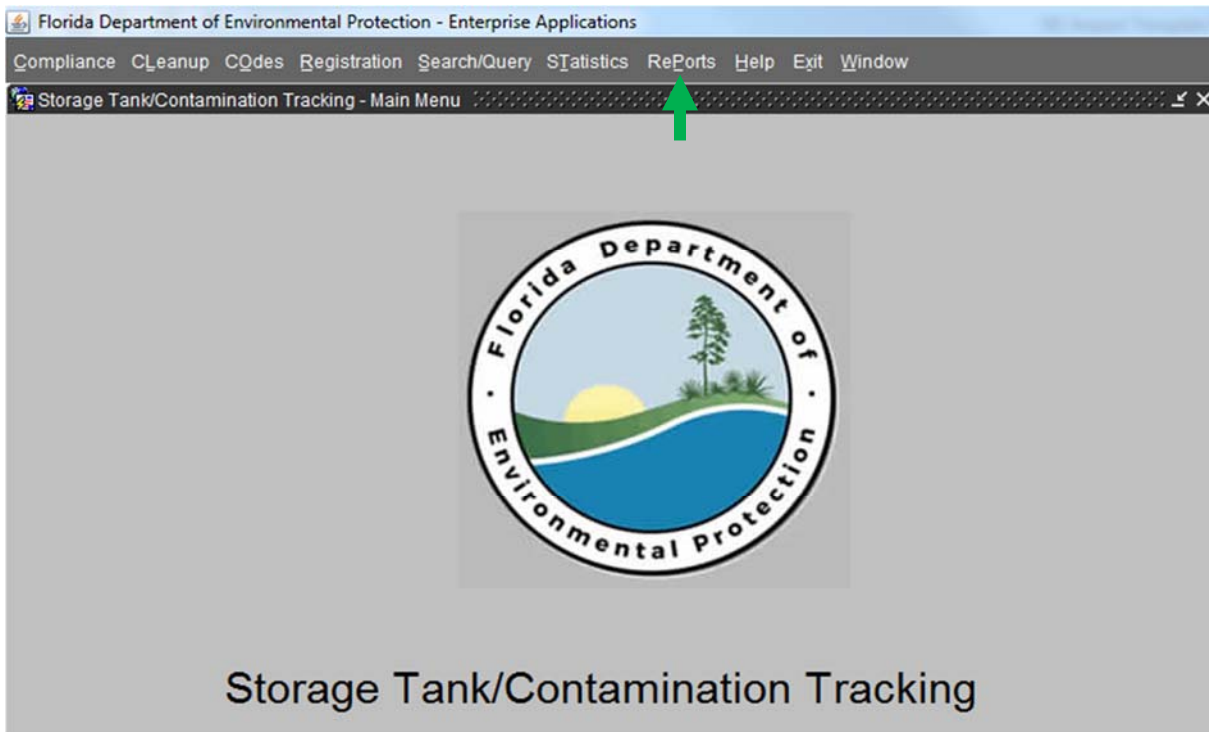

Figure 8
2. **Select "Reports"** at the top of the screen (Fig. 8, green arrow). This will open up the STCM Report Menu in your web browser.